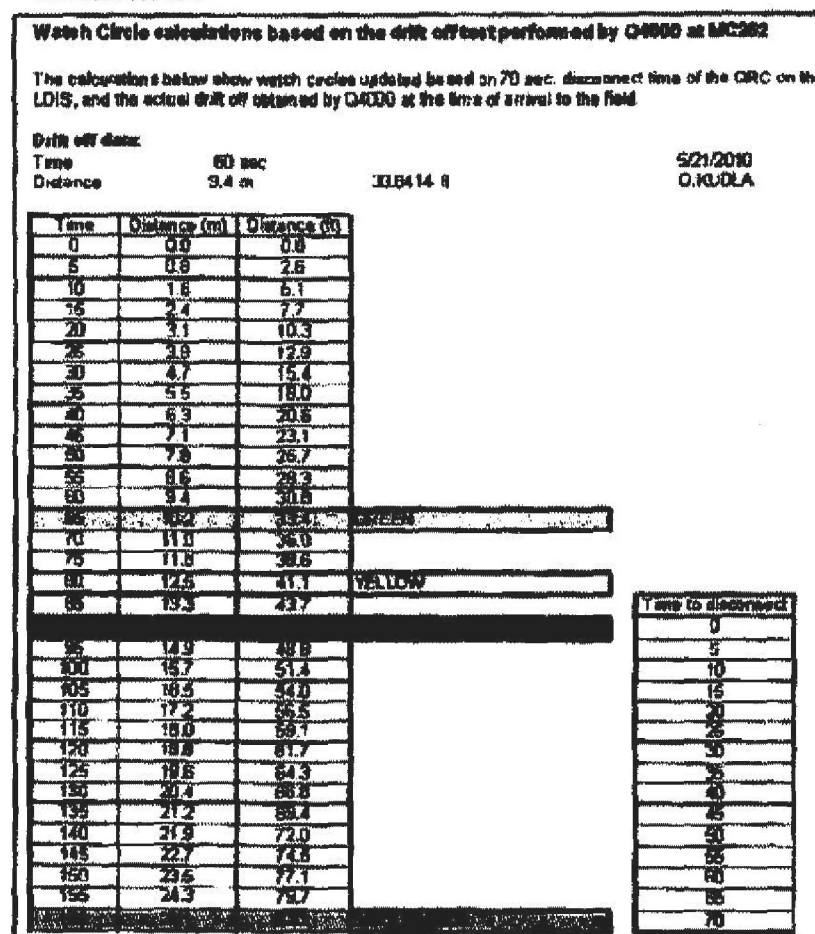

Figure 2: Q4000 Drift off Chart.
- Drift off calculations for Q4000 are presented in Figure 2. These drift off times were obtained from drift off test performed by Q4000 on May 17, 2010 after it arrived at the MC 252 location.